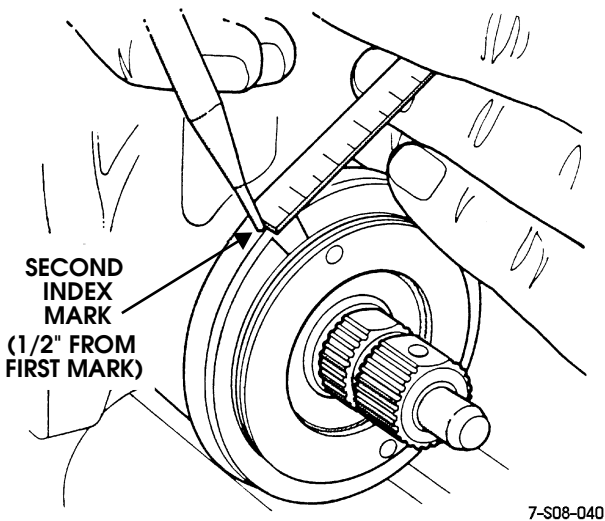

Figure 8-67: Placing Second Index Mark On Housing
6. Measure back counterclockwise 1/2 inch (13 mm) from first index mark and scribe a second index mark on gear housing (Figure 8-67).